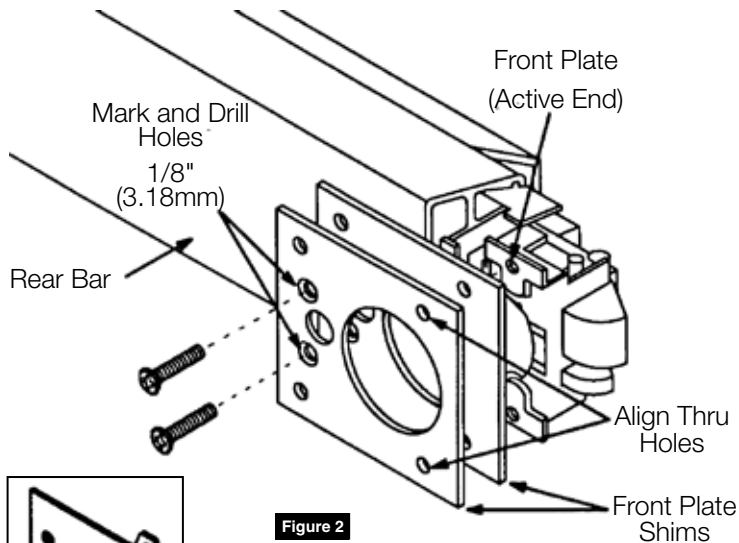

Figure 2
1. Locate back of rear bar. Align through holes in front plate shim(s) with holes in front plate using mounting screw of Phillips screwdriver as aligning pin. Mark rear bar for two (2) holes using shim(s) as a template. Drill two (2) 1/8" (3.18mm) diameter holes into rear bar where marked.
2. Position desired number of front plate shims with countersinks facing out over holes. Insert flat head self-tapping screws provided through shims into holes in rear bar. Tighten screws securely so that screw heads are flush. (Figure 2)